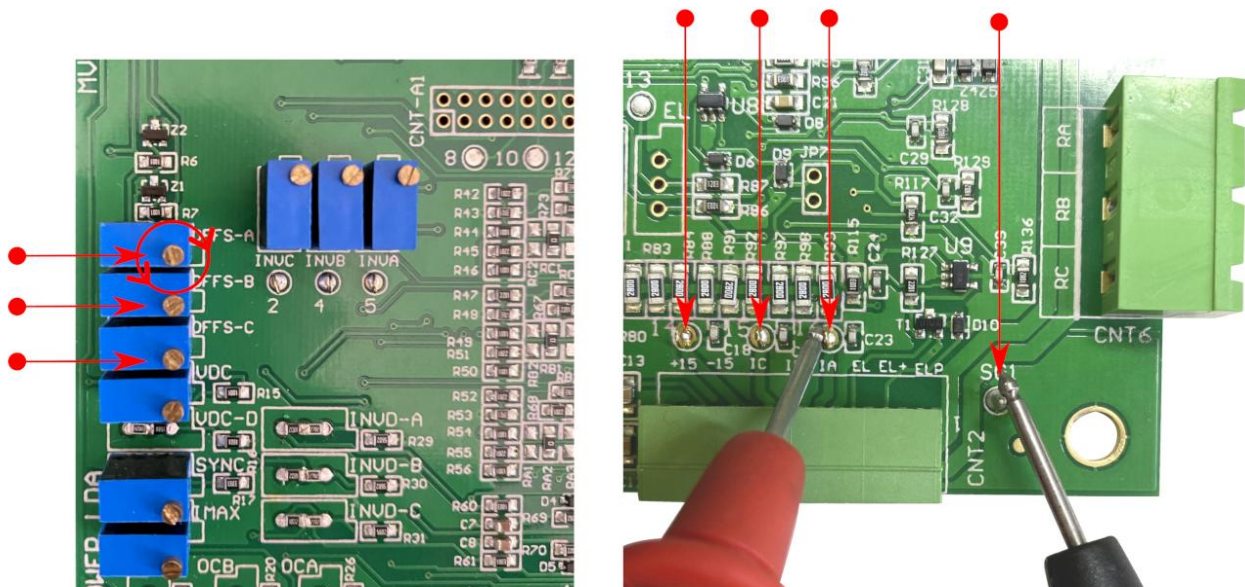

Figure 32 – Offset adjustment
If, without the presence of a load, the equipment is emitting a loud noise like a high-pitched sound, it means that the DC current offset shifted to a higher value than ± 10 mVDC. With the equipment running: On the PCB MVA FDB 3PH (**Annex II – Components**, for PCB location (37)), with a voltmeter on a mV scale and DC mode, measure between ground and TP 14, TP 15 and TP 16 for Phase C, B and A respectively. If above ± 10 mV, adjust to a value between -10mV and +10 mV, using a proper trimpot adjust key or alternatively use a small screwdriver on the trimpots OFFS-A, B and C (Figure 32).